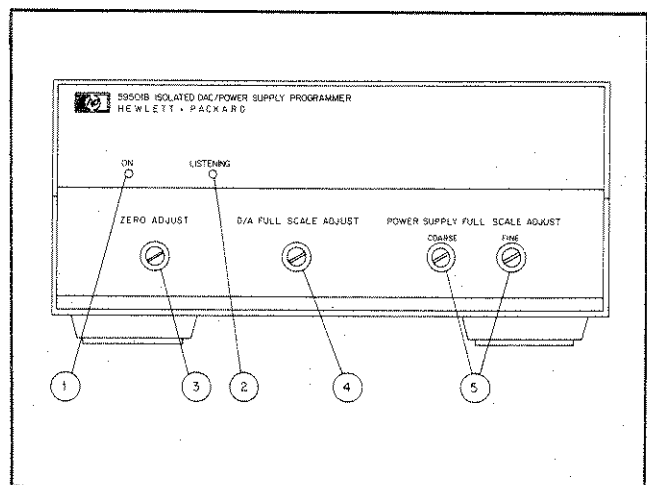

Figure 3-1. 59501B Front Panel
3-7 The 59501B front panel contains a power on indicator, a status indicator and four controls (screwdriver adjustments) as shown in Figure 3-1.
3-8 The power on (ON) indicator ① (Figure 3-1) lights and the 59501B's internal supply voltages (+15V,  $\pm 15V$ ,  $V_{DD}$ ) are present when the line cord is plugged-in.